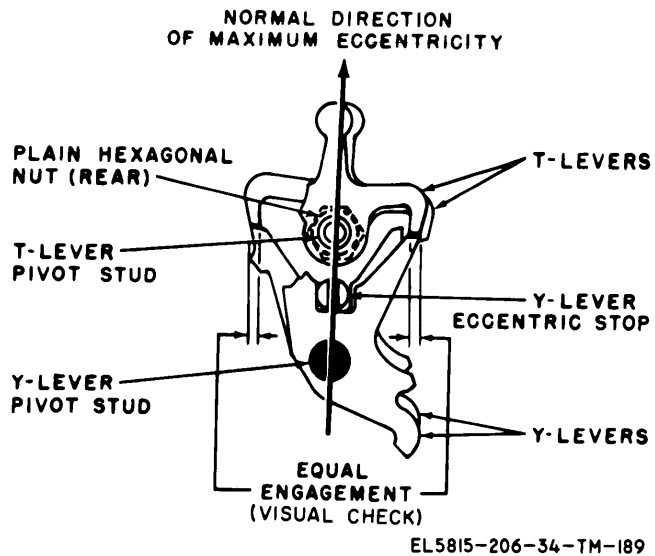

Figure 3-117. T-lever pivot stud adjustment.
(fig. 3-117)
*c. Adjustment.* Loosen the plain hexagonal nut on the rear of the T-lever pivot stud. Position the T-lever pivot stud to the normal direction of maximum eccentricity, as shown in figure 3-117. Then reposition the pivot stud to meet the requirement in